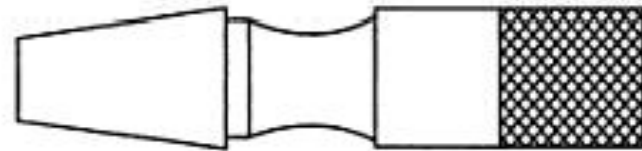

Fig. 17.16. Taper gauge for shafts.
- **Taper gauges are shown in Figs. 17.16 and 17.17. Taper gauges are not dimensional gauges but rather a means of checking in terms of degrees. Their use is a matter more of fitting rather than measuring.**